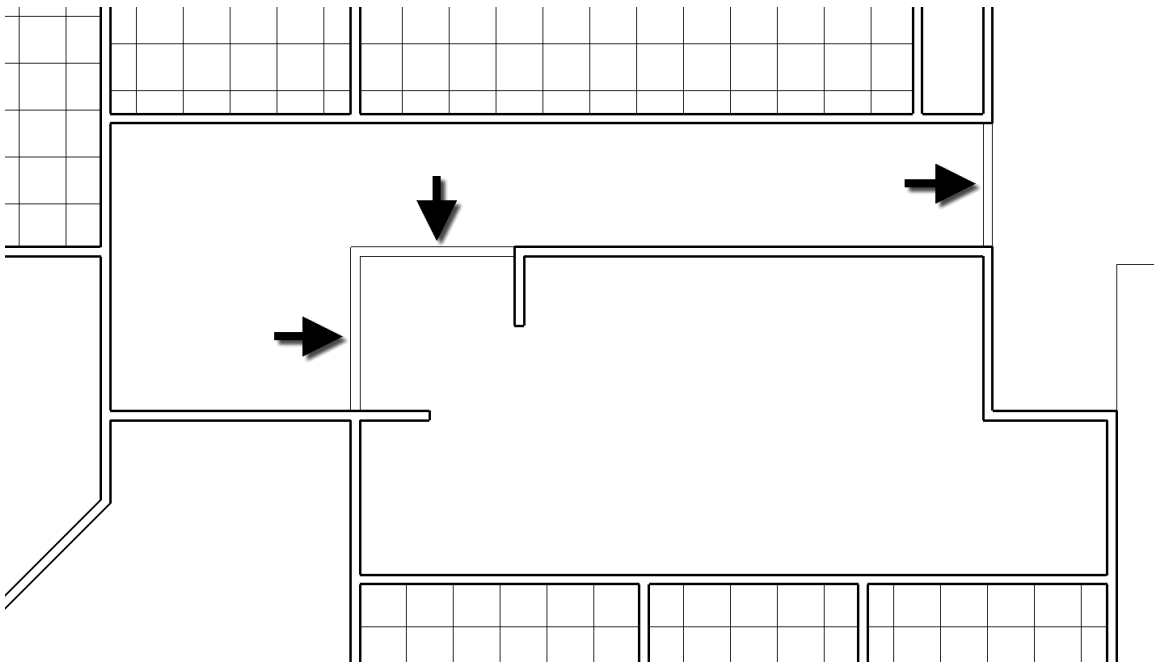

Figure 7-4.12 Bulkhead modeled
29. Set the wall type to: **Interior – 4 7/8" Partition (1-hr)** and the Base Offset to **7'-10"**. *This will put the bottom of the wall to 7'-10" above the current floor level, Level 1 in this case (Figure 7-4.12).*
31. **Draw the bulkhead;** make sure you snap to the adjacent walls (Figure 7-4.12).